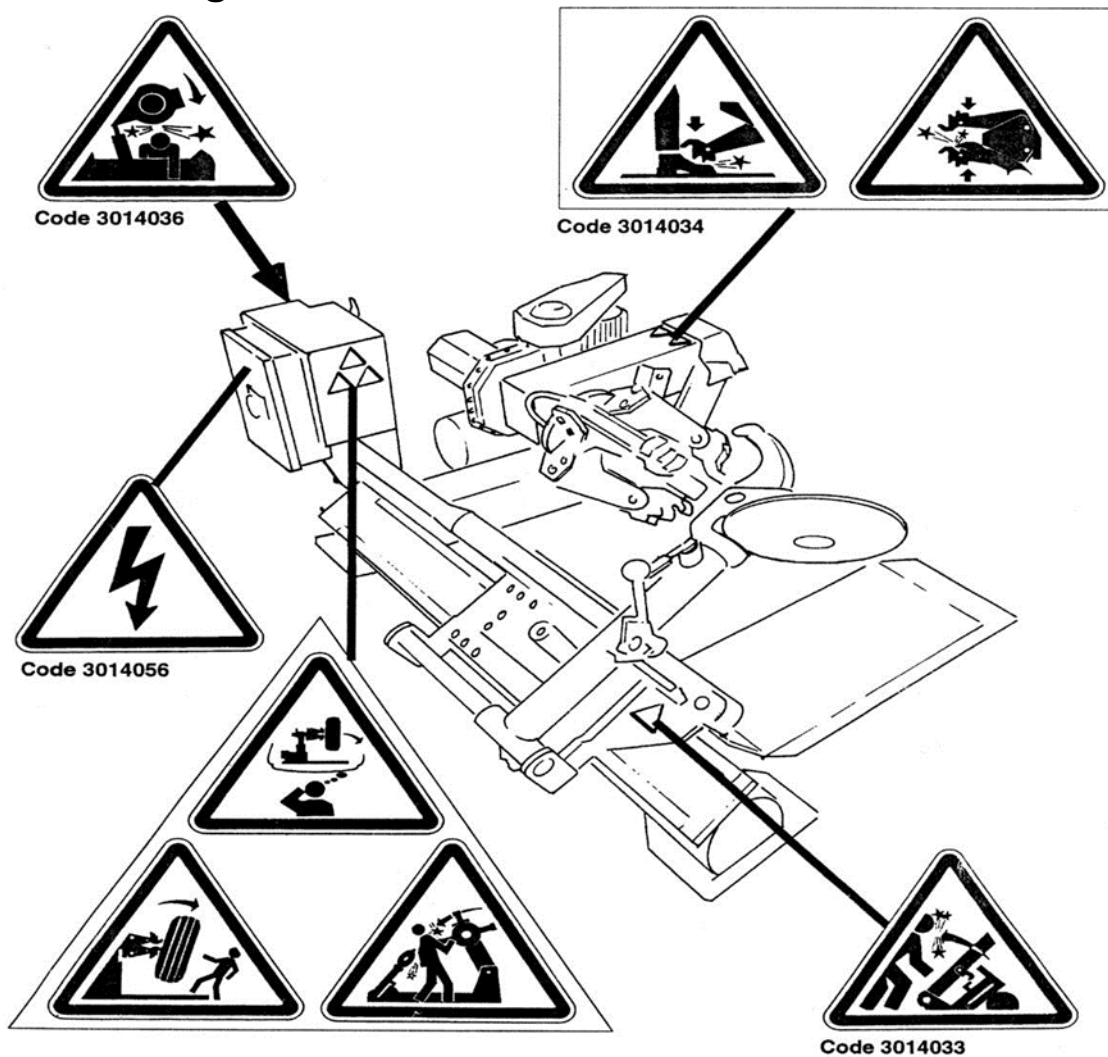

Fig 6
**Warning:** Unreadable or missing warning labels must be replaced immediately. Use the codes shown in Fig 6 when ordering warning labels.